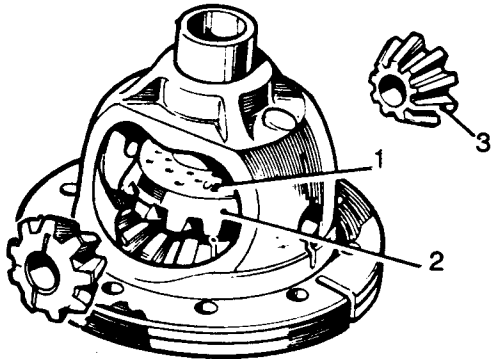

Fig J2.59
- (1) Refer to Fig J2.59. Place a thrust washer (1) in position on the rear face of each differential wheel.
- (2) Locate the two differential wheels (2) and thrust washers into the differential case.
- (3) Insert the differential pinions at exactly opposite points, then rotate the wheel and pinion assembly to align the holes in the pinions and case for the pinion spindle.